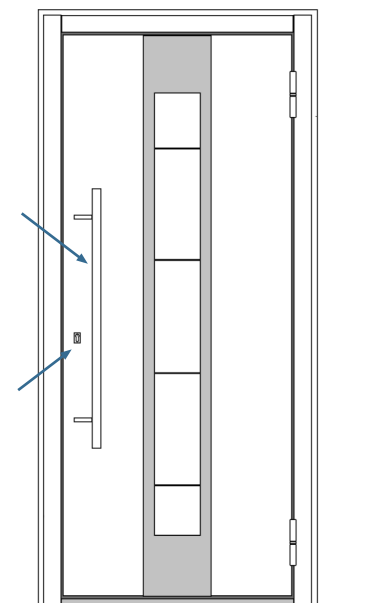

Figure 24
4. Installing fittings (figure 24)